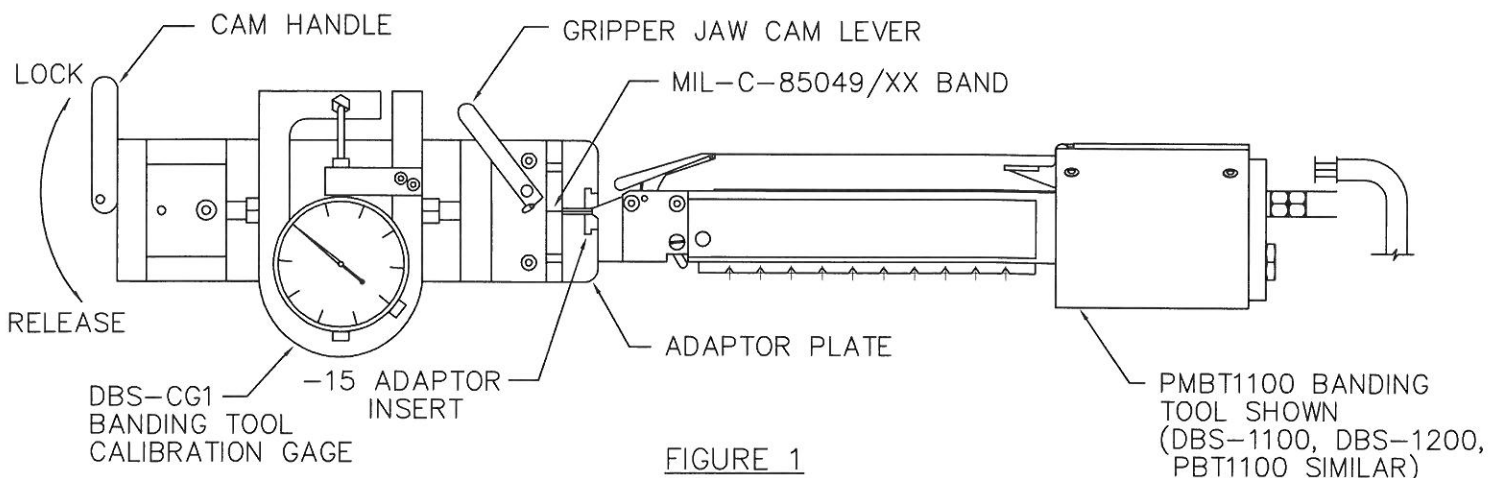

FIGURE 1
- 1.1 Place the banding tool calibration fixture (P/N DBS-CG1) in a position where the dial of the gage is facing the operator as shown in Figure 1.